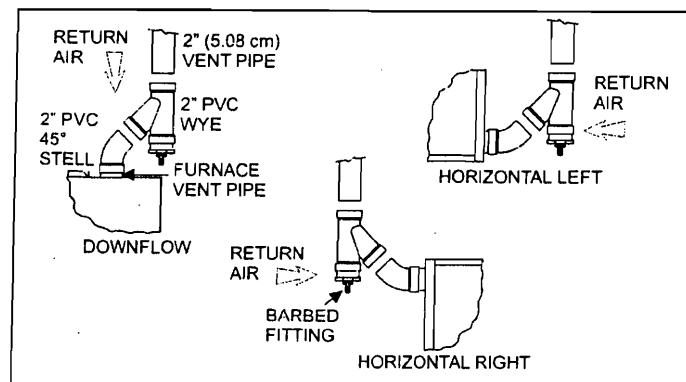

FIGURE 17: Downflow/Horizontal Vent Assembly
1. Place the 2" (5.08 cm) 45° PVC street elbow on the vent connection shown in Figure 17.
2. Place the 2" (5.08 cm) PVC WYE ("Y") assembly on the 2" (5.08 cm) 45° PVC street elbow as shown in Figure 17.
4. Slide the hose through the hole in the top cover, and insert the hose on to the barbed fitting on the bottom of the 2" (5.08 cm) PVC WYE ("Y") assembly as shown in Figure 17.